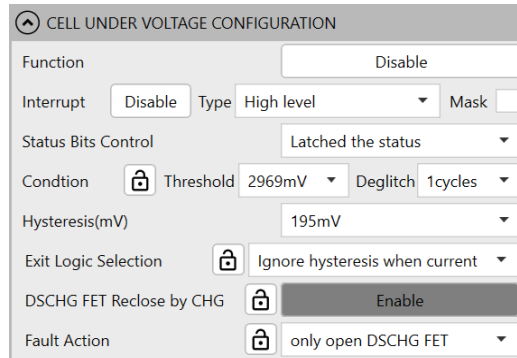

Figure 23: Cell Under-Voltage Configurations
25. Figure 23 shows how to configure the cell UV parameters.